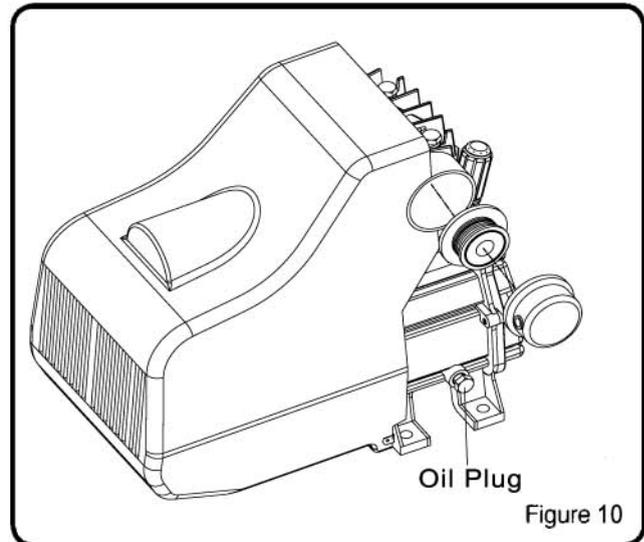

Figure 10
3. Remove oil plug (see Figure 10). Allow oil to collect in pan. Tilt unit to completely drain.
See Figure 10.